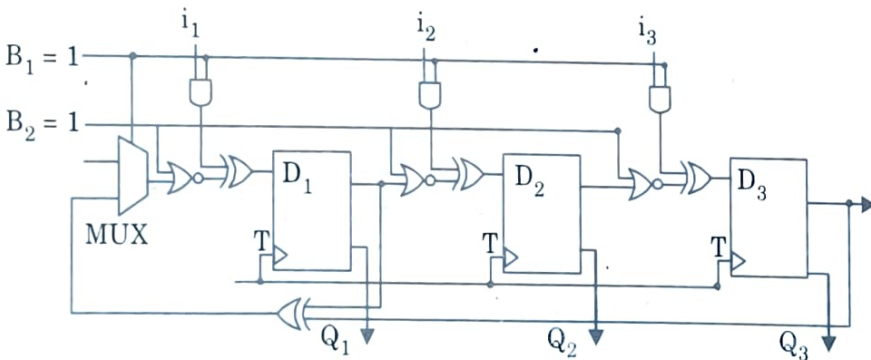

Fig. 5.16.3. Built-in-test-(BILBO) normal mode.
3. In the normal mode, $B_1 = B_2 = 1$ and the storage elements are used independently by the circuit as shown in Fig. 5.16.3.